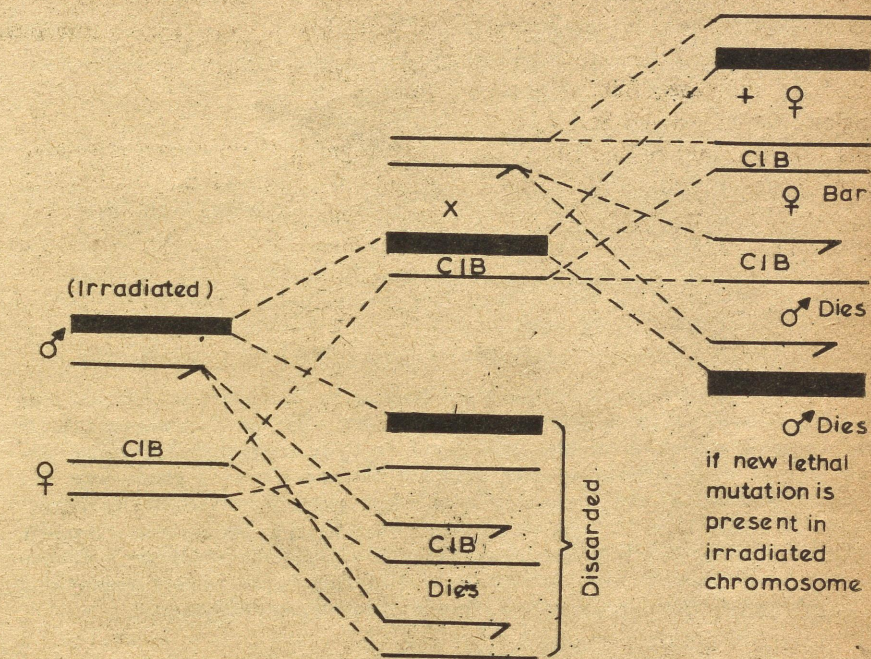

Fig. 1. The CIB method for detecting lethal mutations in the X chromosome in *Drosophila melanogaster*
The martensite crystal structure which is necessary for the effect can be produced in two general ways: (i) by subjecting an alloy to a stress magnitude of which is related to temperature, or (ii) by rapidly quenching a suitable alloy to some critical temperature. The macroscopic behaviour of the SME can best be understood by means of crystallographic history of a spacecraft antenna shown in Fig. 1.
Fig. 1. Crystallographic history of the spacecraft antenna shows the role of temperature in the shape-memory effect. The construction material, Nitinol wire in a large coil, is raised to a temperature of 650 degrees C and is stabilized so that the crystal structure of the material is entirely in the beta, or "parent," phase (1). This phase is often the crystal structure austenite. The wire is now cooled. At the temperature  $M_s$  (60 degrees C) the new crystal phase martensite starts to form, replacing the beta phase (2). At  $M_t$  (52 degrees) the transformation to martensite is finished (3). While the Nitinol wire is held at a temperature below  $M_t$  it is cut into short lengths, which are gently bent to form the segments of the intended hemisphere (4). Where the segments cross one another they are fastened by tack welding. One can now crush the antenna into a small volume (5). In order to restore the original shape the crushed structure is heated. At temperature  $A_s$  (71 degrees) austenite begins to replace martensite (6). On reaching  $A_t$  (77 degrees) the antenna has unfolded completely (7). In this particular case what the shape-memory alloy "remembers" is not the actual configuration of the antenna but the gentle curves of the coiled wire from which the antenna was constructed. As the wire tries to straighten itself it is constrained to the shape of a bowl by the multiple welds at the crossover points (Courtesy: L.M. Schetky)
In *Drosophila*, the CIB method (Fig. 1), which makes use of an X chromosome that contains the dominant gene Bar (B, narrow eyes), a recessive lethal (l, no expression in heterozygotes) and a crossover suppress (C, an inversion which eliminates crossing over), is an effective method for detecting lethal mutations in the X chromosome.